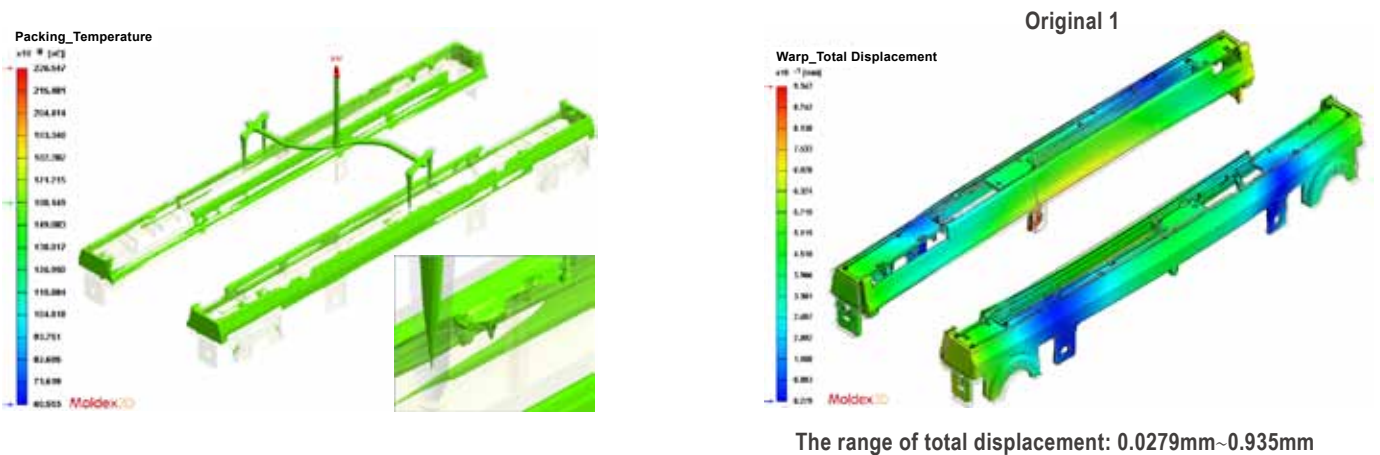

Fig. 9: 5 seconds for packing was sufficient, making Revised 2 the most optimized design choice.
- The packing time could be lowered to only 5 seconds, much lower than the original 8.7 seconds (Fig.9).